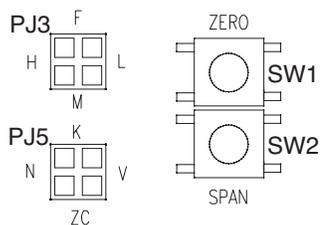

Figure 5, Mode and Range Programming Jumpers and Switches
The operating modes and ranges are controlled by two shorting jumpers on a pair of jumper blocks, PJ3 and PJ5. These two jumper blocks are shown in Fig. 5.
If the optional display is present, the K factor used in velocity measurements may be adjusted. This is done by activating the K factor adjustment function of the unit. To activate the K factor adjustment function, take the shorting jumper from programming block PJ5 and place it on the upper two terminals next to the letter "K". See Fig. 5. The display will now show the programmed Pitot tube K factor. The K factor can be adjusted up and down by using the zero and span buttons as up and down buttons. Once the desired K factor has been set, replace the shorting jumper on PJ5 to its velocity position ("V"). The shorting jumper must not be left in the "K" position for proper operation of the unit. The factory setting for the K factor is 1.0 and it is adjustable from 0.5 to 3.
To activate the filter adjustment function, take the shorting jumper for programming block PJ3 and place it on the upper two terminals next to the letter "F". See Fig. 5. The display will now show the filter time constant. The time constant can be adjusted up and down by using the zero and span buttons as up and down buttons. Once the desired time constant has been set, replace the shorting jumper on PJ3 to its original position. The shorting jumper must not be left in the "F" position for proper operation of the unit. The factory setting for the time constant of the filter is 0.5 Seconds.
The transmitter may be user calibrated. With the two buttons marked "Zero" and "Span" (see Fig. 5) four calibration coefficients may be altered: Pressure zero, Pressure span can be calibrated with the two buttons marked "zero" and "span" (see Fig. 5). Analog output zero, either 0 V or 4 mA, and Analog output Full Scale, either 10 V or 20 mA may be adjusted with two buttons marked "zero" and "span" in conjunction with jumper settings. Pressure and output are calibrated separately to ensure the displayed pressure is correct and the analog output has accurately calibrated end points. These calibration coefficients are stored in nonvolatile memory, which retains its content indefinitely without external power or batteries. Factory calibration may be easily restored.
Calibration of Analog Output – To adjust the analog output zero; set jumper settings PJ3 (F) and PJ5 (K) (see Fig. 5), "double click" the Zero switch. The zero switch must be pressed twice within about one second. "Double clicking" too fast may not be recognized. Depending upon the configuration the analog output should now read approximately either 0 V or 4 mA. This can be changed by pressing the "Zero" switch to decrease the reading or pressing span to increment the reading. Set the current output to 0.00 V or 4.000 mA. End the analog zero calibration mode by pressing "Span" and "Zero" switches simultaneously. The output should then vary with pressure.
Analog Full Scale Calibration – To adjust the analog output span; set jumper settings PJ3 (F) and PJ5 (K) (see Fig. 5), With the voltmeter or milliammeter connected to the transmitter output, "double click" the "Span" switch as described above for the analog output zero calibration. The reading on the meter should now read about 10 V or 20 mA. Change this value by pressing the "Zero" switch for down and the "Span" switch for up as described above. When complete, press the "Zero" and "Span" switches simultaneously to return operation to normal. The analog output reading should now indicate the process value.